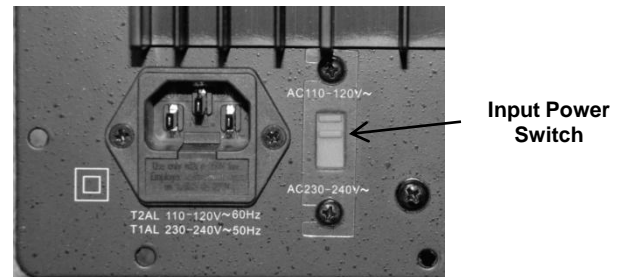

Figure 5, INPUT POWER SWITCH
- POWER Switch** The POWER switch has three (3) positions OFF-AUTO-ON.
**INPUT POWER Switch** The FLSUB has a switchable power input of 110VAC and 230VAC See Figure 5. It is shipped in the 110VAC position with the required cord. To change to 230VAC loosen the two Phillips screws on the clear cover of the 120-230V slide switch and slide the switch down to the 230-240VAC position. Return the clear cover to the proper position and retighten the two Phillips screws.